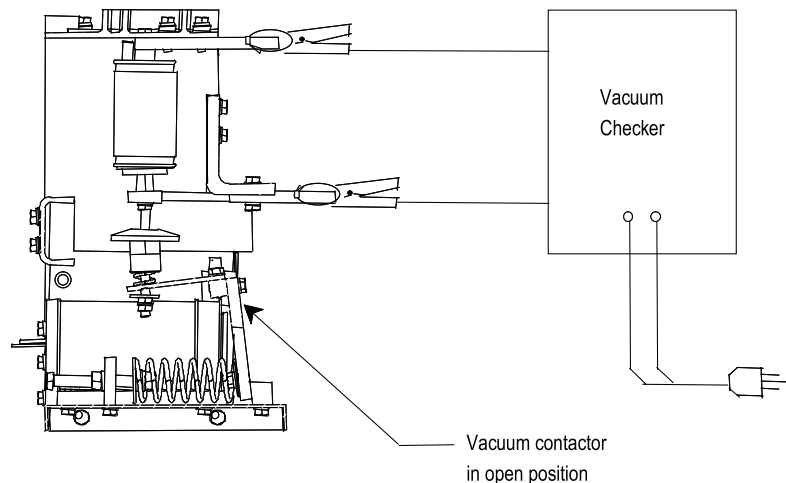

Figure 2.2 – Vacuum Bottle Integrity Test Circuit
2. With the contactor in the open position, connect the test leads to the contactor power terminals as shown in Figure 2.2. It is recommended that an AC hi-pot tester be used. Apply 16 kV for 60 seconds and monitor the leakage current. It should not exceed 5 mA.
**Note:** Rockwell Automation recommends that, if the contactor has been in service, all three (3) bottles be replaced at the same time.